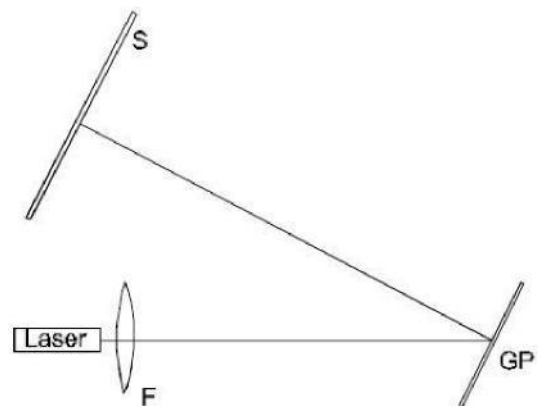

Fig.1 Experimental set-up (F = lens, GP = glass plate, S = ground screen)
- Place the laser without the lens in the corner of metal board, the laser beam should be parallel to the longer side of the board (see Fig. 1).